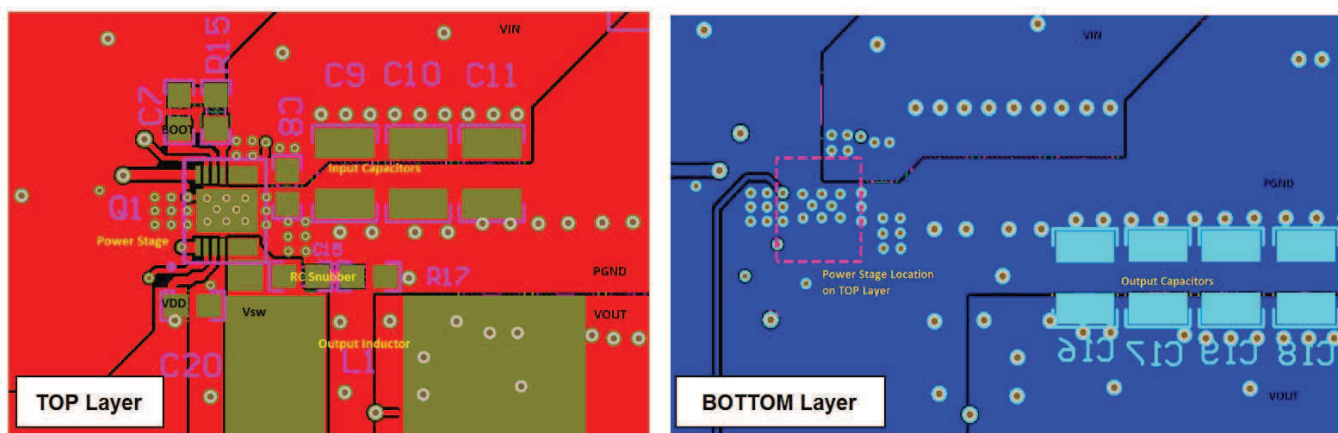

Figure 14. Recommended PCB Layout (Top Down View)
- The placement of the input capacitors relative to  $V_{IN}$  and  $P_{GND}$  pins of CSD95379Q3M device should have the highest priority during the component placement routine. It is critical to minimize these node lengths. As such, ceramic input capacitors need to be placed as close as possible to the  $V_{IN}$  and  $P_{GND}$  pins (see Figure 14). The example in Figure 14 uses 1 × 1-nF 0402 25-V and 3 × 10-μF 1206 25-V ceramic capacitors (TDK part number C3216X5R1C106KT or equivalent). Notice there are ceramic capacitors on both sides of the board with an appropriate amount of vias interconnecting both layers. In terms of priority of placement next to the power stage C8, C9, C10 and C11 should follow in order.
- Use the smallest drill size allowed in your design. The example in Figure 14 uses vias with a 10-mil drill hole and a 16-mil capture pad.